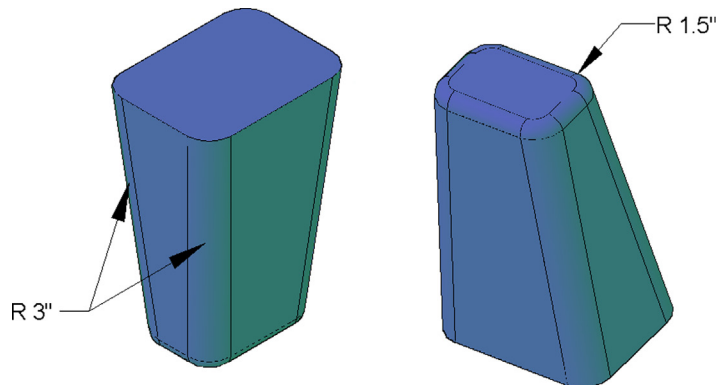

FIGURE 24.20
Step 3. Fillet the side edges with a 3" radius, and the bottom with a 1.5" radius, as seen in Figure 24.20.